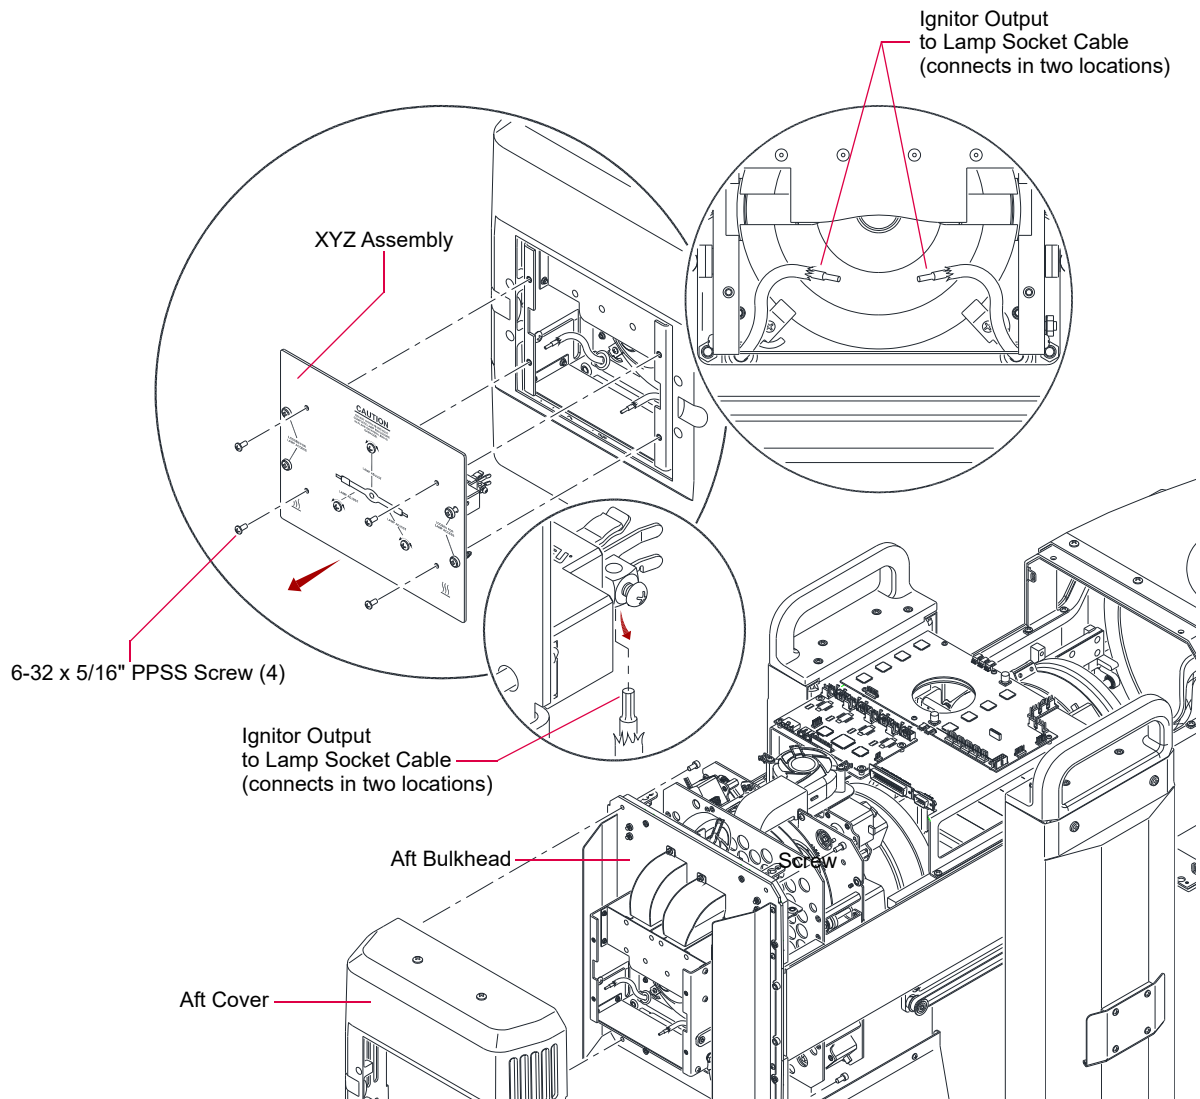

Figure 3-4: Removing XYZ Assembly
- Step 3. Remove four 6-32 x 5/16" PPSS screws which secure XYZ Assembly in place (**Figure 3-4**).
- Step 4. Disconnect Ignitor Output to Lamp Socket Cable from two locations by loosening screws. (Refer to detail in **Figure 3-4** below.)